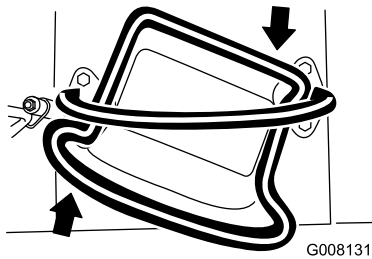

Figure 8
- To turn right, rotate the traction control clockwise (Figure 8).